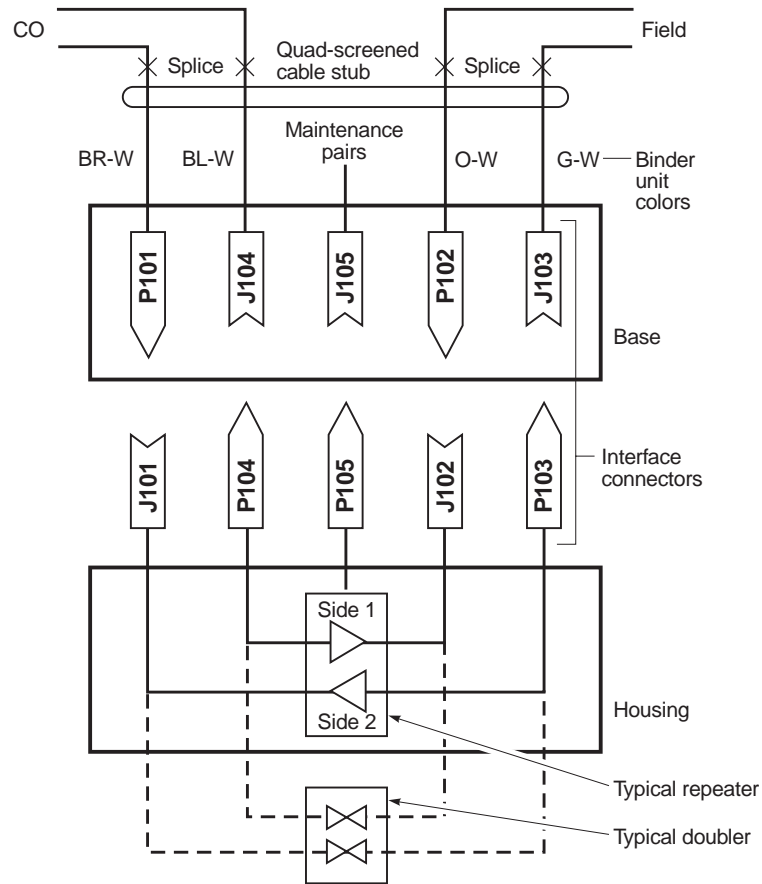

Figure 10. Enclosure Wiring
- 4 Splice the stub cable to the main cable as outlined in Figure 10.